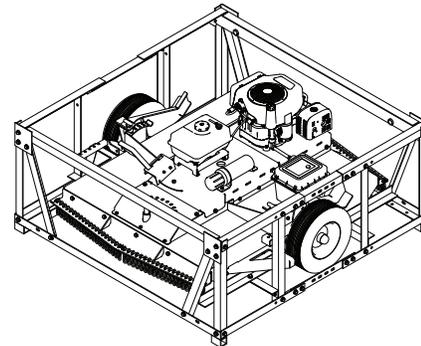

FIGURE 3: *Your New Mower As It Is Shipped To You*
1. Remove any loose parts or packaging, from the crate. **SEE FIGURE 3**